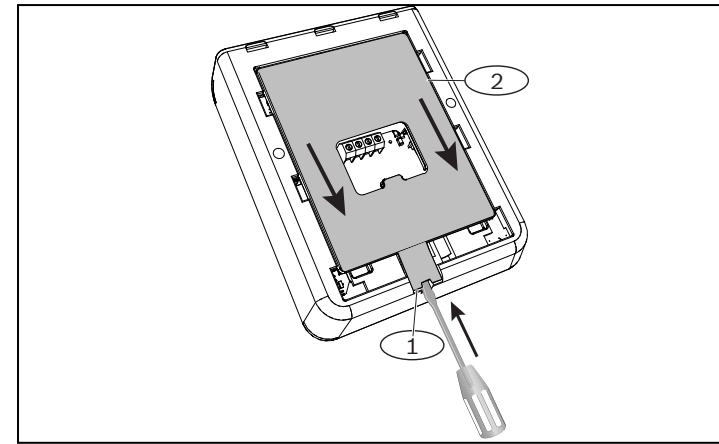

Figure 2.1: Removing mounting plate from keypad
1. Insert a slotted screwdriver under the retention clip to release it. Do not pry upwards. Refer to *Figure 2.1*.
2. With your other hand, slide the mounting plate towards the bottom of the keypad to unhook the mounting plate from the keypad. Refer to *Figure 2.1*.